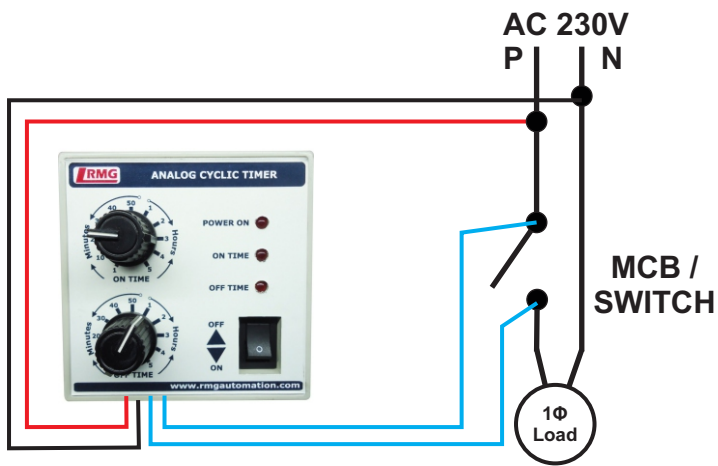
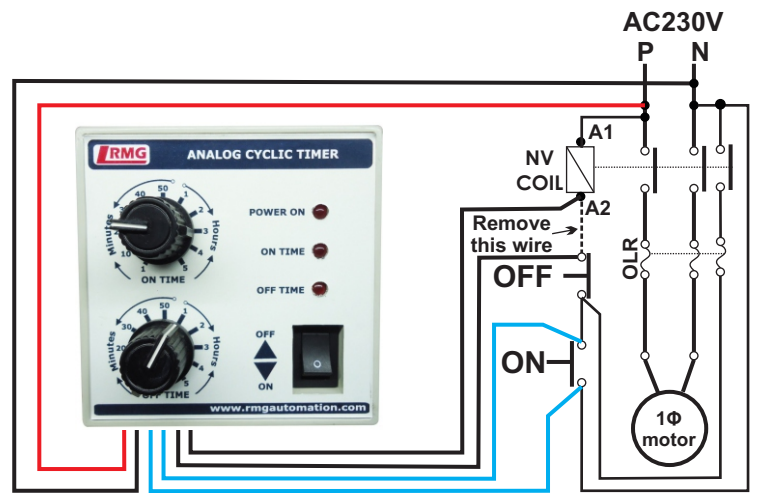
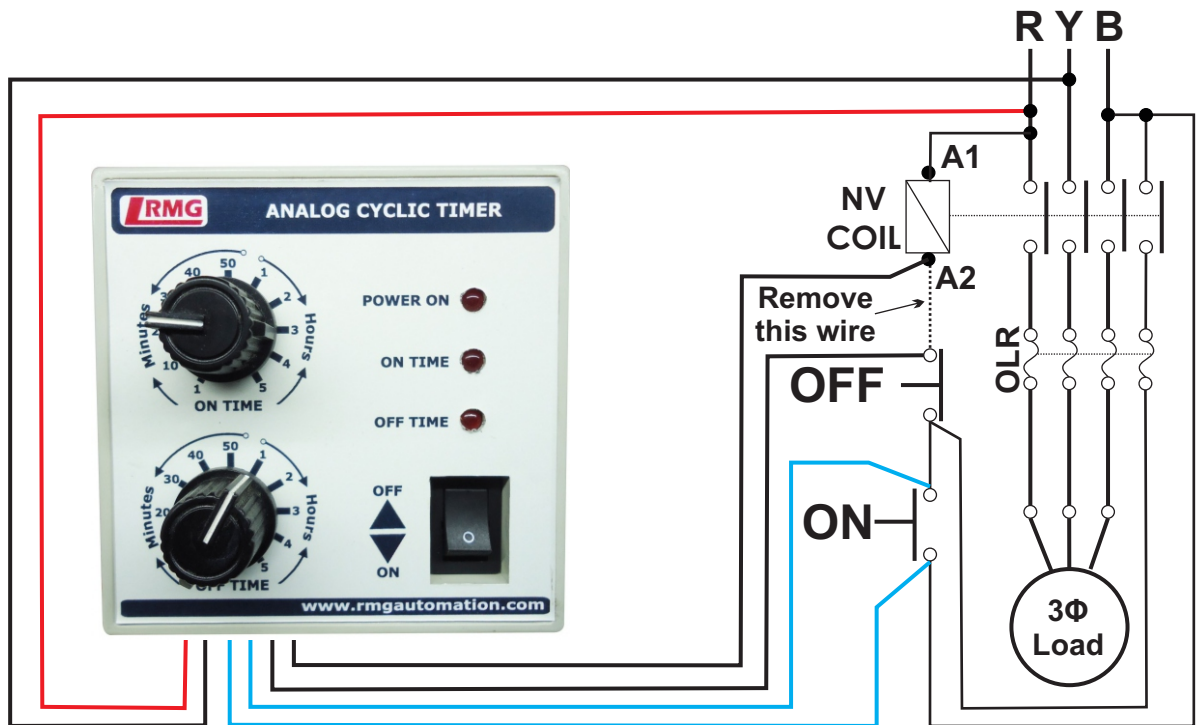

Figure1: 1Φ SWITCH/MCB
Figure3: 1Φ Starter
Figure2: 3Φ Starter
Step 2: As per the model purchased, check the label and connect AC supply (230V / 440 V) to red and black wire of timer refer figure 1 or figure 2.
Step 3: For switch or MCB, Connect blue pair wire to the switch/MCB of the load in parallel as shown in figure1.
Step 4:For motor starter, Connect blue pair wire to ON button of starter in parallel and black pair wire to OFF button in series(Refer to figure.2 and figure.3)